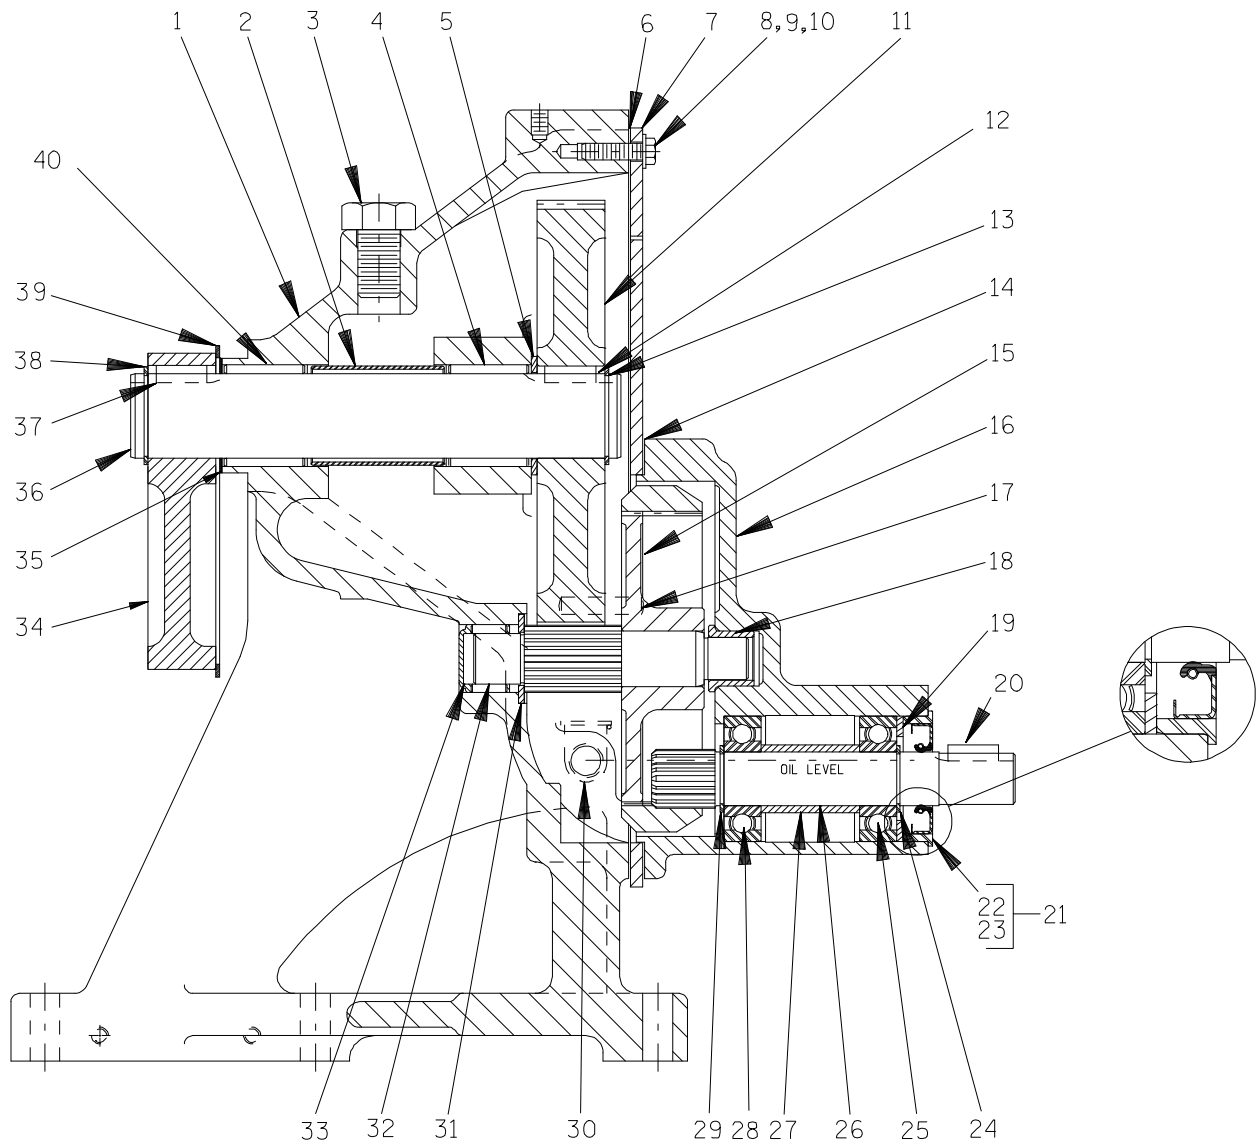

Figure 4. 44161-008 Gearbox Assembly
Removing the retaining ring (6) and slide the plunger rod assembly (31) off the eccentric cam drive shaft (36, Figure 4).
Disengage the hardware (23, 24, 25) and remove the coupling guard (9). Loosen the hardware securing the coupling (11) and separate the halves. Remove the gearbox assembly, and slide the coupling half off the pinion drive shaft (26, Figure 4).
(Figure 4)